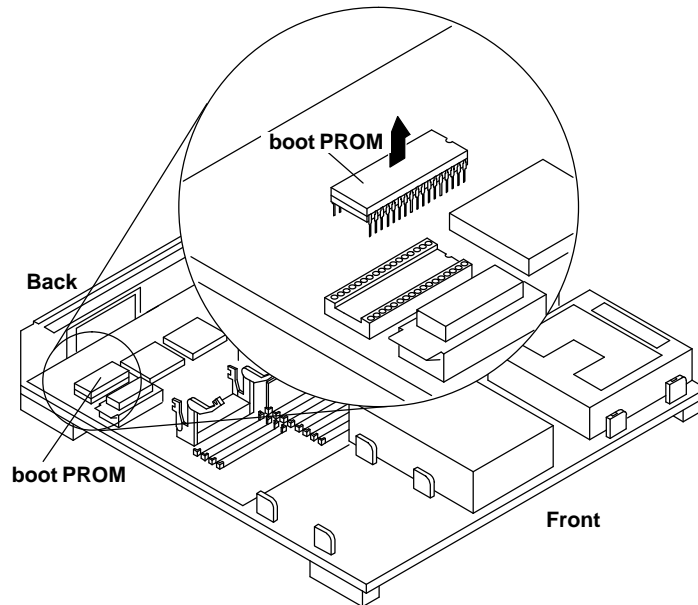

Figure 3-8. Removing the boot PROM
2. Locate the boot PROM. Refer to Figure 3-8 for the correct position of the boot PROM.